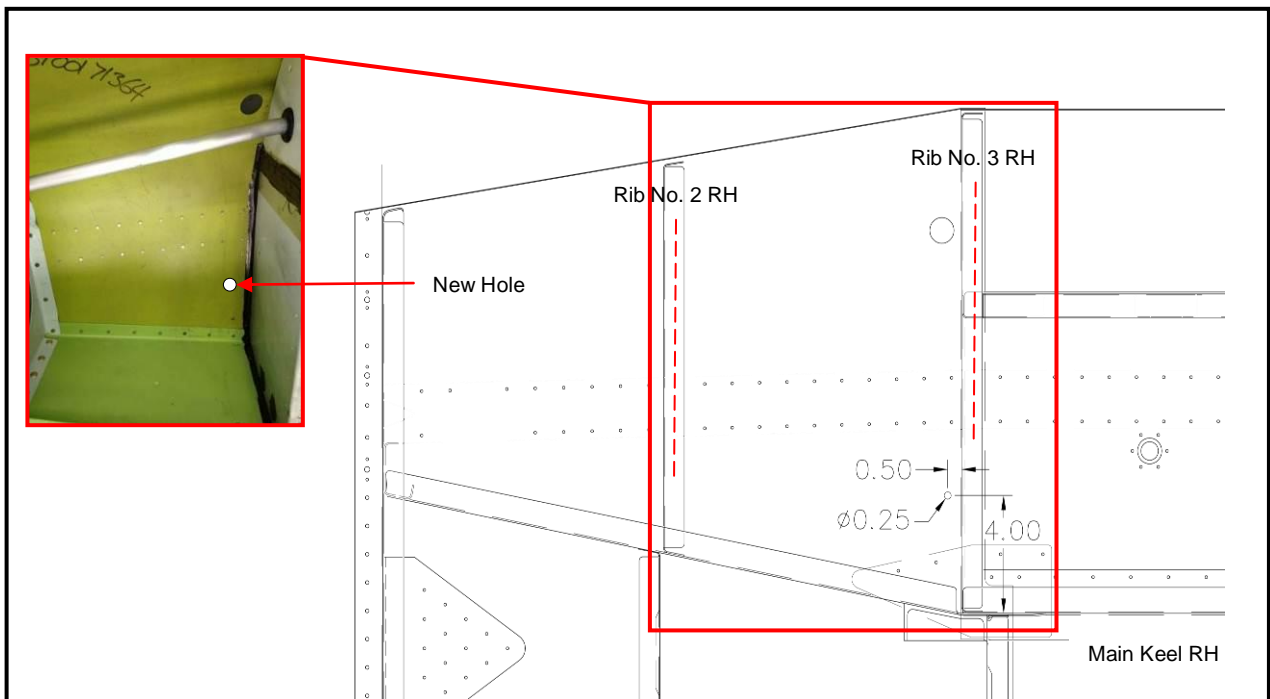

Figure 4: Hole 2 (Belly skin shown from above for clarity, DO NOT REMOVE FLOOR SKIN)
9. Gain access through floor inspection panel forward of control column and drill $\frac{1}{4}$ in. hole through bottom skin located between no. 2 RH rib (GA8-532023-016) and no. 3 RH rib (GA8-532023-253), Figure 4.